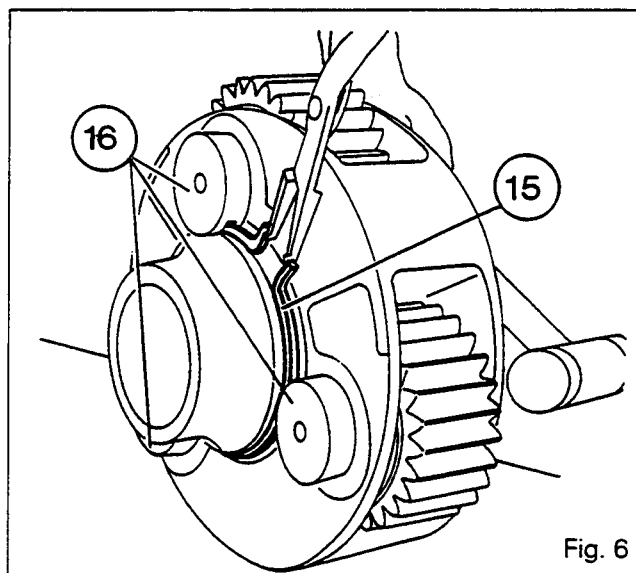

Fig. 6
4. Remove the planetary carrier assembly (21).
5. Remove the bolt (13) and the spacer (14).
6. Open out the circlip (15) (Fig.6).
7. Using a copper tipped mallet, tap lightly on the three pins (16) (Fig.6).
8. Remove the three pins (16) and the circlip (15).
9. Remove the three planetary gears (18), the needle rollers (20), the spacers (19) and the thrust washers (17).
14. Open out the circlip (15) (Fig.6).